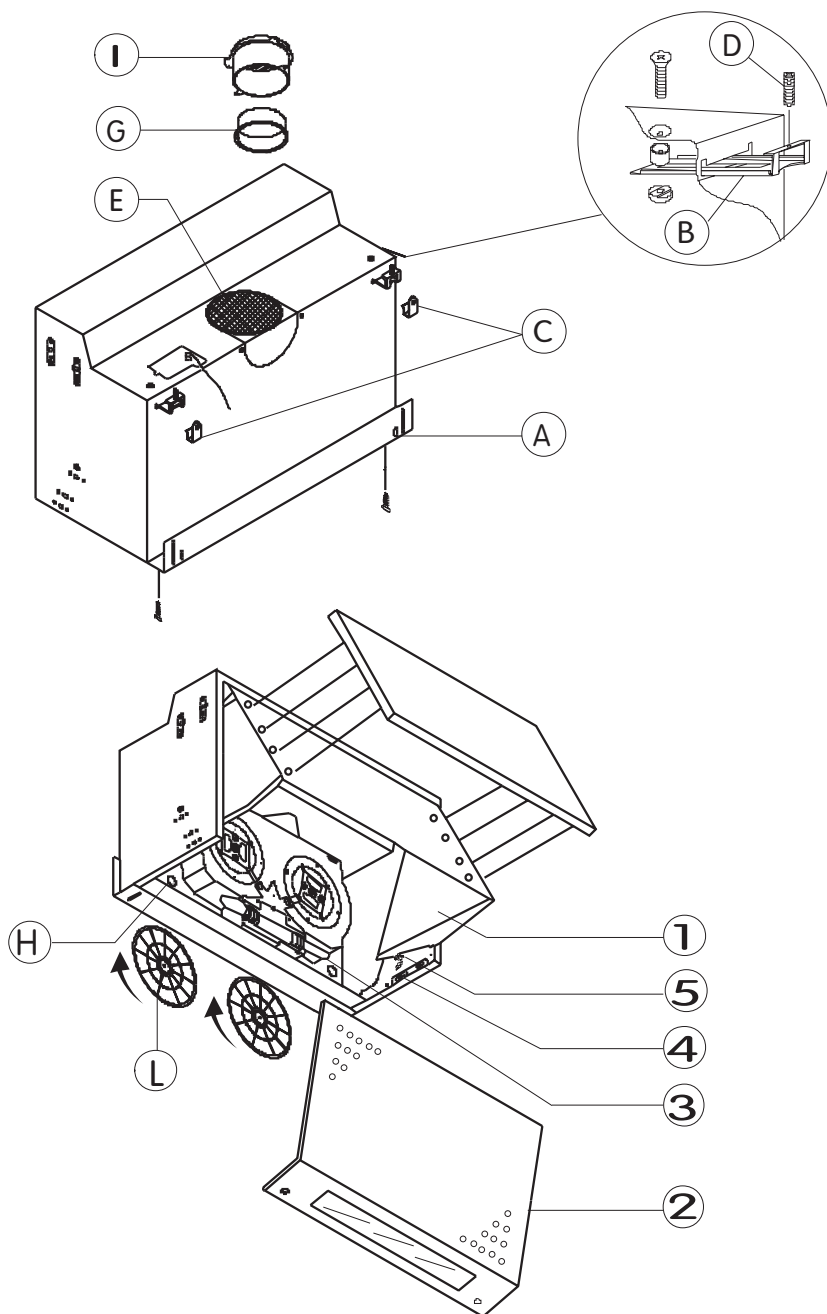

Fig. 1
VIEW OF THE HOOD (Fig. 1)
the cupboard; remove the grill on turning the suitable latches, extract the flap door "1" on turning the releasing knobs "5", fix the angular frame "A" to the wall, in the holes "M", at the right height, through the holes "H" (Fig. 1), by means of the screws 5x45. Fasten the fixing screws to the angular frame of the hood.
With the suction version, the dirty air is ejected outside the house by an apposite pipe conduit connected to the connection flange "G" fixed to the hole "E" (Fig. 1) by the screw 2,9x13.
- Remove the grid 2 (Fig. 1).
- Apply the carbon filter "L" (Fig. 1).